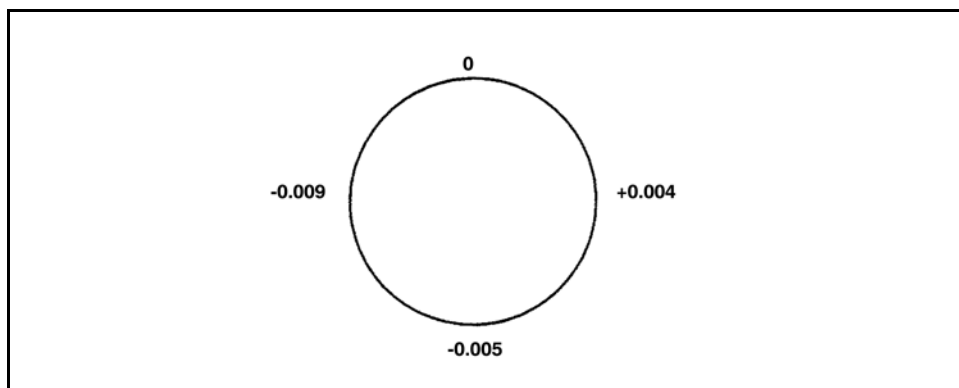

Figure 2-27 Total Indicator Reading (TIR)
A total indicator reading (TIR) is the difference between two readings on opposite sides of the shaft. In the example illustrated (see Figure 2-27), the horizontal TIR is (-0.009) and (+0.004) which is a difference of 0.013 in. (0.330 mm) or 13 thousandths of an inch TIR. Vertical TIR is (0) and (+0.005) which is a difference of 0.005 in. (0.127 mm) or 5 thousandths of an inch TIR.